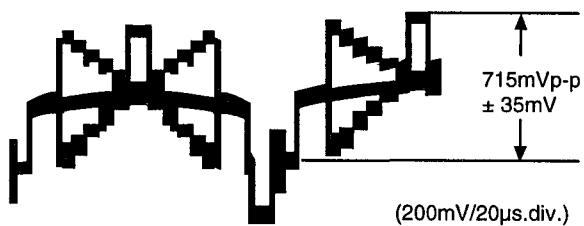

Fig. 3-19
(2) Knee Adjustment (Fig. 3-19)